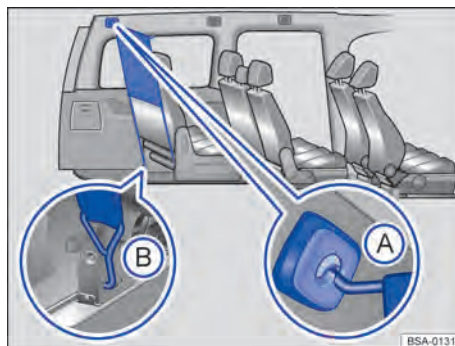

Fig. 152 Net partition installed behind the third row of seats.
1. Hook the net partition into the *rear left* holder in the roof → Fig. 152 (A). Ensure that the transverse rod is pulled up over the upper position so that it latches securely in the slots.
3. Hook the net partition into the seat anchor points → Fig. 152 (B).